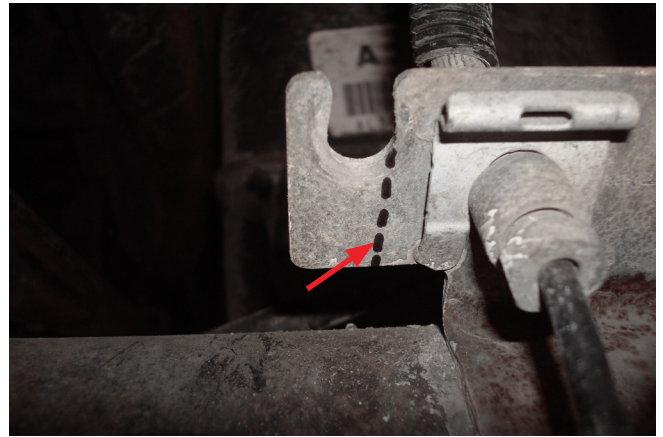

Fig. 7
6. Mark the location noted in Fig. 7 and cut the end of the bracket off using a hack saw or grinder with a cut off wheel. This will make room for the lower bracket.